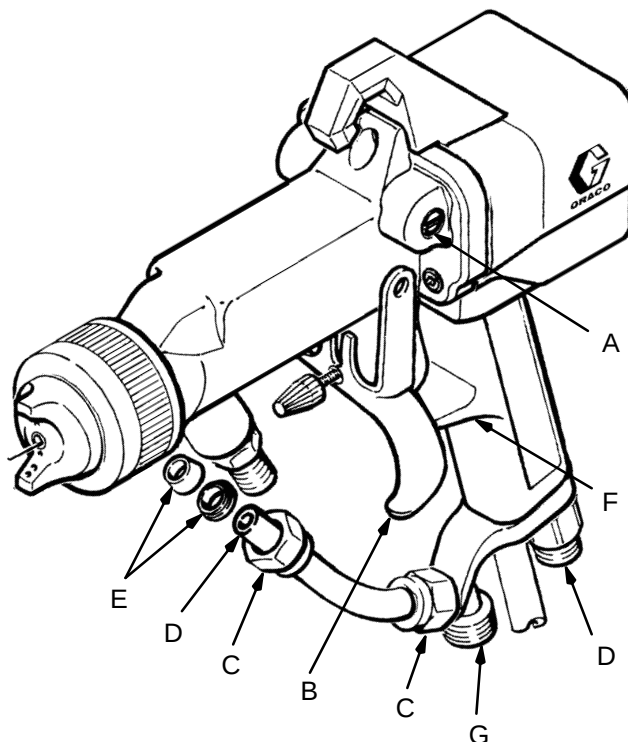

Fig. 1
1. Loosen the screws (A) and remove the two-finger trigger (B) from the gun. See Fig. 1.
2. Loosen the nuts (C) on each end of the fluid tube (D) and remove the tube from the gun.
3. Remove the ferrules (E) from the old tube. There are two ferrules on each end of the tube.